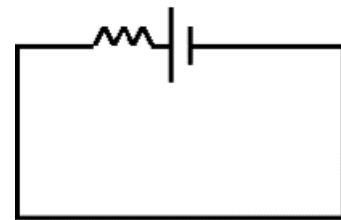

Figure 1: A schematic diagram showing internal resistance and a battery.
- This internal resistance is usually drawn into a circuit diagram (*schematic*) as shown in Figure 1.